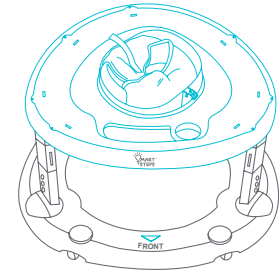

Fig. 2c
- Be sure to lineup the tabletop tray **logo** with the base that has the imprinted “FRONT” lettering (Fig. 2c).